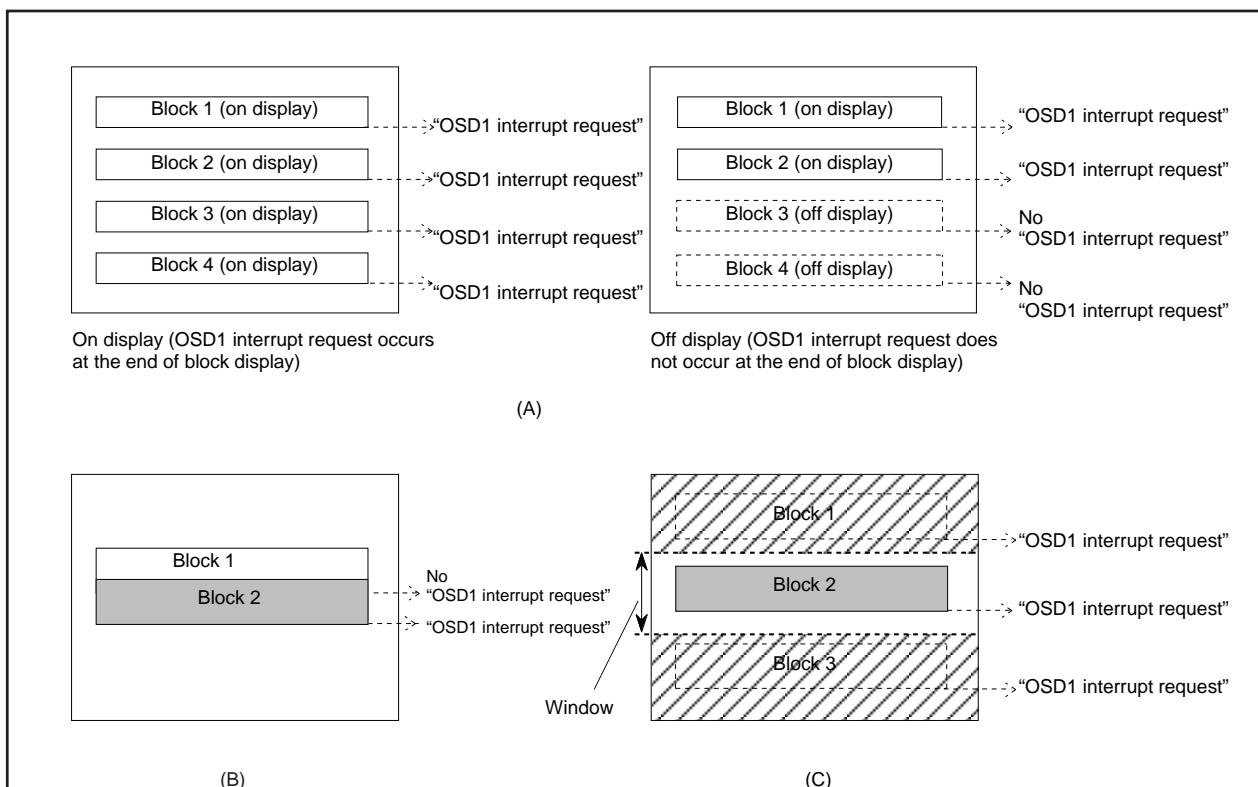

Figure 16.39 Note on occurrence of OSD1 interrupt
Notes 1: An OSD1 interrupt does not occur at the end of display when the block is not displayed. In other words, if a block is set to off display by the display control bit of the block control register i (addresses 0210₁₆ to 021F₁₆), an OSD1 interrupt request does not occur (refer to Figure 16.39 (A)).
2: When another block display appears while one block is displayed, an OSD1 interrupt request occurs only once at the end of the another block display (refer to Figure 16.39 (B)).
3: On the screen setting window, an OSD1 interrupt occurs even at the end of the CC mode block (off display) out of window (refer to Figure 16.39 (C)).